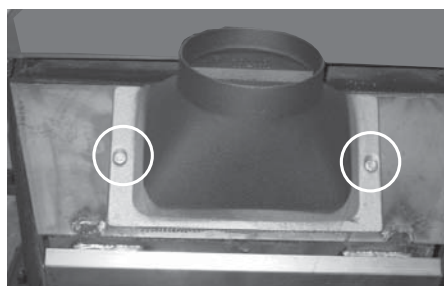

Figure 13.2
3. Remove 1 bolt from each side of the flue transition. and retrieve nuts attached to bolts. Use 3/8" and 7/16" wrenches. **Figure 13.2.**